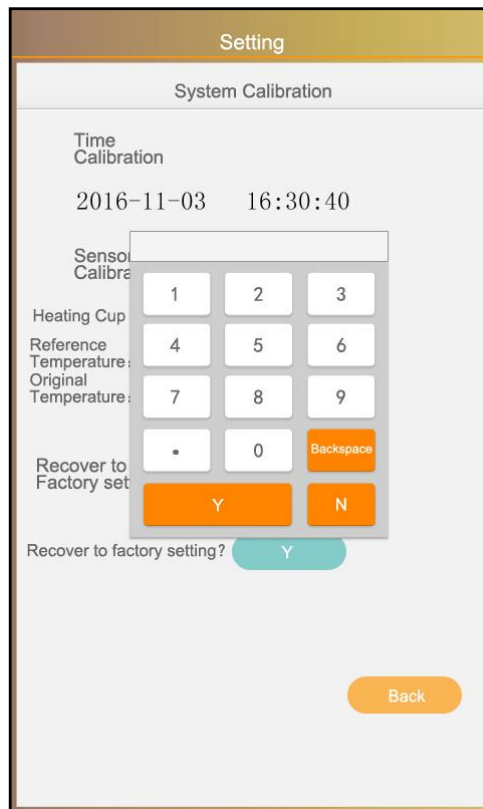

Figure 23
4.2.4.4 Choose "Time Calibration" item, with interface as shown in figure 23. Input the correct time through the digital interface.